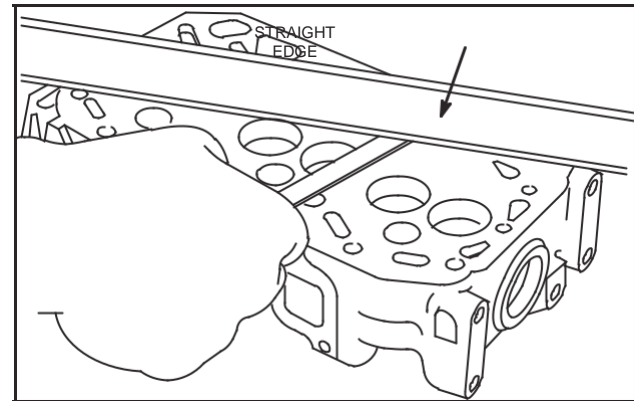

Fig. 12 – Check Cylinder Head For Distortion
1. Check cylinder head mounting surfaces, Fig. 12 and Fig. 13.